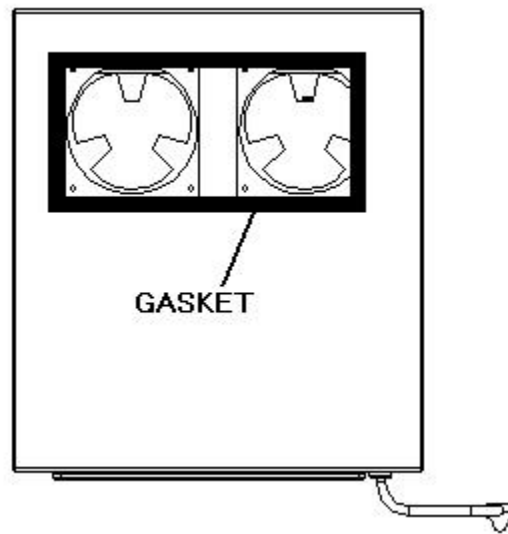

Fig. 2.3 TOP EXHAUST GASKET
- If top exhaust, place another gaskets along the top exhaust at the top of the cooling unit (see Fig.2.3).